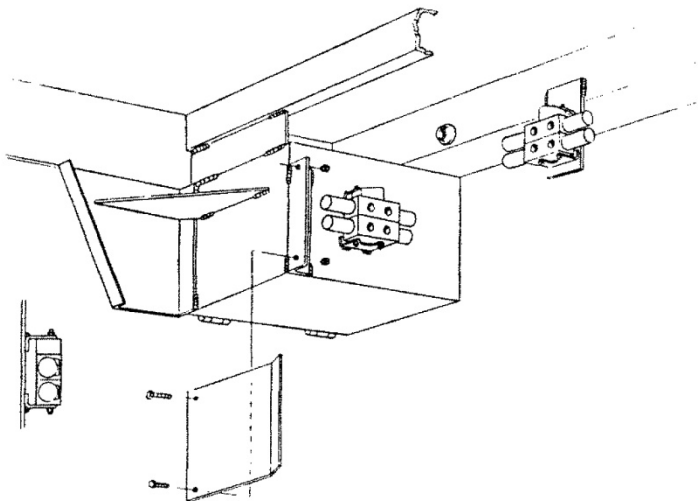

Fig. 1
3. To install optional the tool box, hold tool box into place, flush with front and side of flatbed. Weld tool box to flatbed frame and support bracket as indicated in Figure 1. **Note:** Do not weld tool box skirt on at this time.
- a. If no tool box is installed, weld valve bracket onto underside of flatbed per Figure 1.
- b. If tool box is installed, weld valve bracket onto the side of the tool Box per Figure 1.
2. Butt the 1" thick lug at rear of flatbed to the end of the truck frame (see figure 1). This should locate the headache rack no more than 2 inches from the truck cab. If the distance exceeds 2" the frame will need to be cut off accordingly.
3. With flatbed in place, adjust the distance between flatbed and cab. Center flatbed, side to side on truck frame, both front and rear. Weld the flatbed to the 3" X 4" tube (42) where the flatbed frame (hydraulic reservoir) meets the 3" X 4" tube.
5. If valves are installed on tool box, fasten valve protector shield to tool box. (see figure 1, page 4)